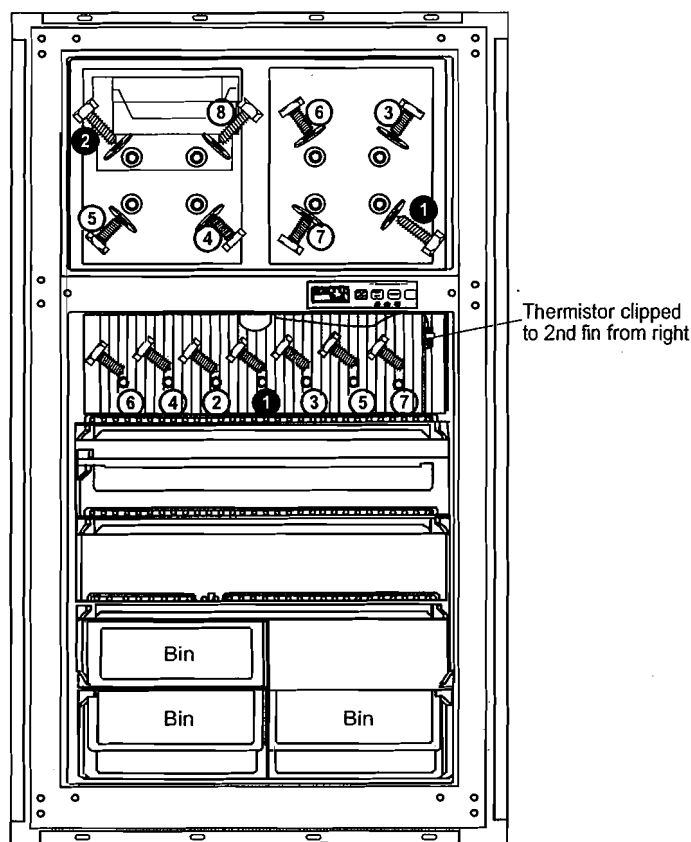

Figure 21. Freezer plates and fin assembly hardware.
- Evaporator plate screw ①. See Figure 21.
- Evaporator plate screw ②. See Figure 21.
- Tighten plate screws ① and ② 30 to 55 inch-pound.
- Install and tighten remaining screws in the order shown in Figure 21.
- Align and install fin assembly screws. Follow the numerical sequence shown in Figure 21. Tighten each screw 30 to 55 inch-pound.
- Clip thermistor to second fin from the right side of the fin assembly. See Figure 21.